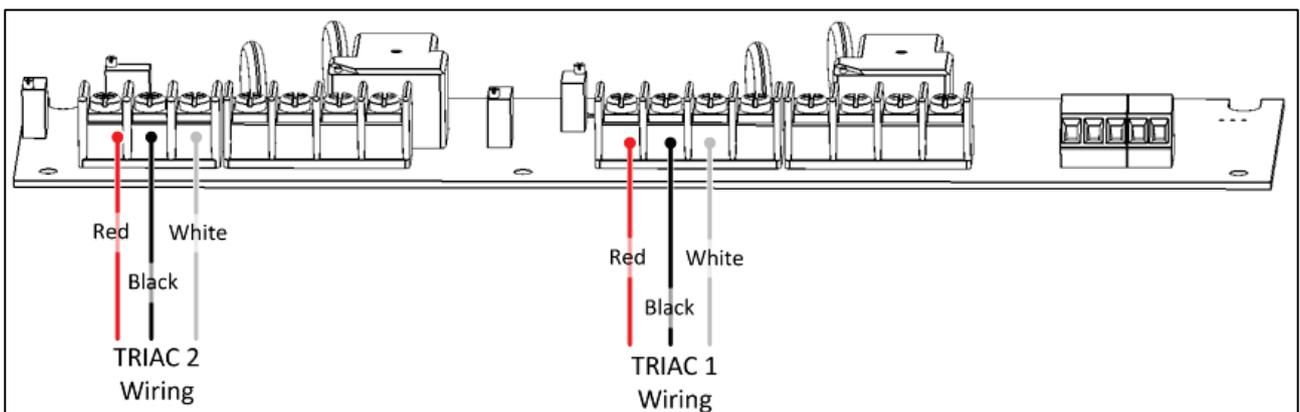

Figure 46: Variable speed card to TRIAC wiring
4. Wire the Variable Speed Card to TRIAC (Figure 46).